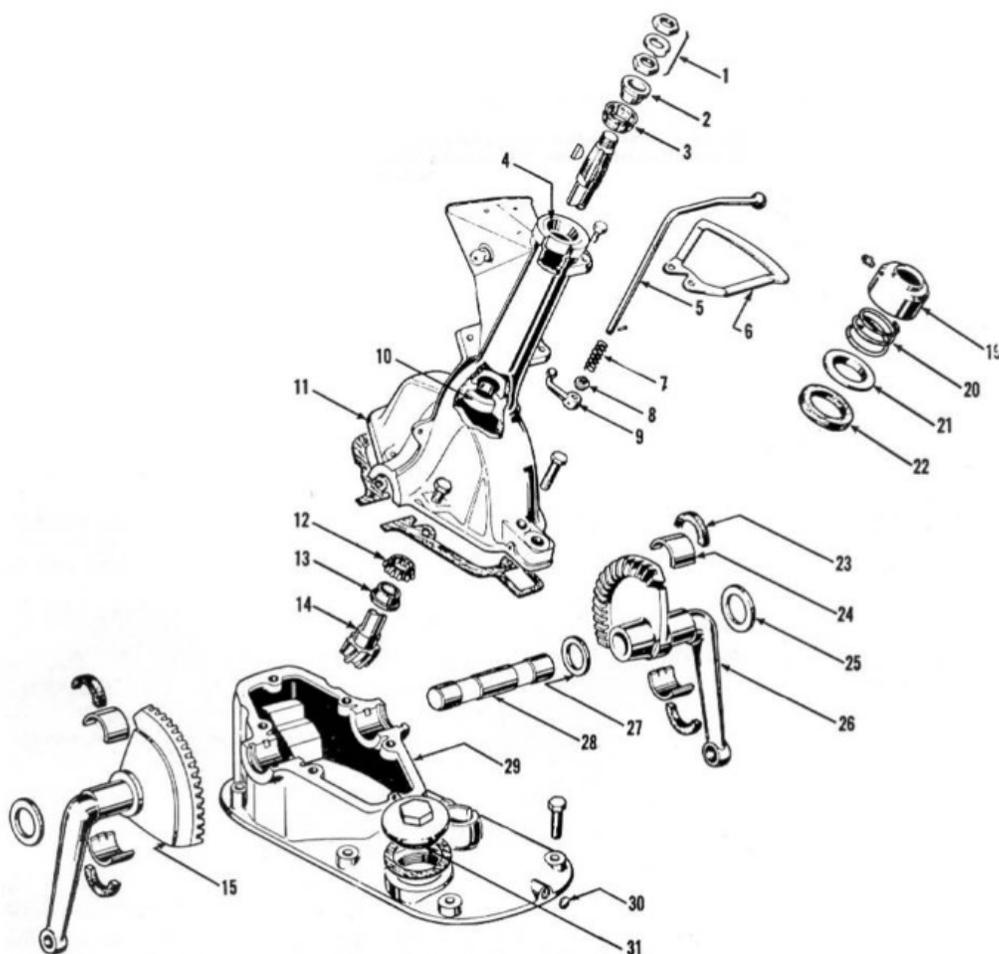

Fig. F07 - Steering gear on models 2N-9N.
6. **ADJUSTMENT.** The steering shaft bearing may be adjusted without removing gear unit from tractor. To adjust steering shaft bearings, remove steering wheel and shaft bearing dust cover (19 – Fig. F07). Remove locknut and lock washer (1). Adjust lower nut until end play is removed and shaft still turns freely. Install lock washer and locknut and tighten nut.